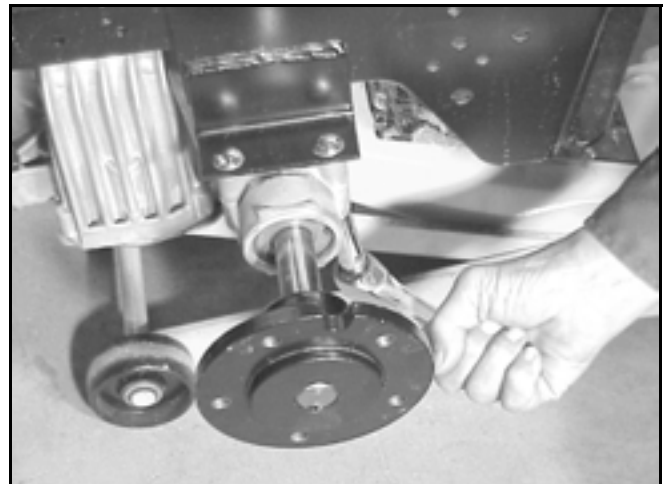

Figure 131
2. Secure the transaxle to the frame brackets with four carriage bolts, washers, and nuts (Figure 131).